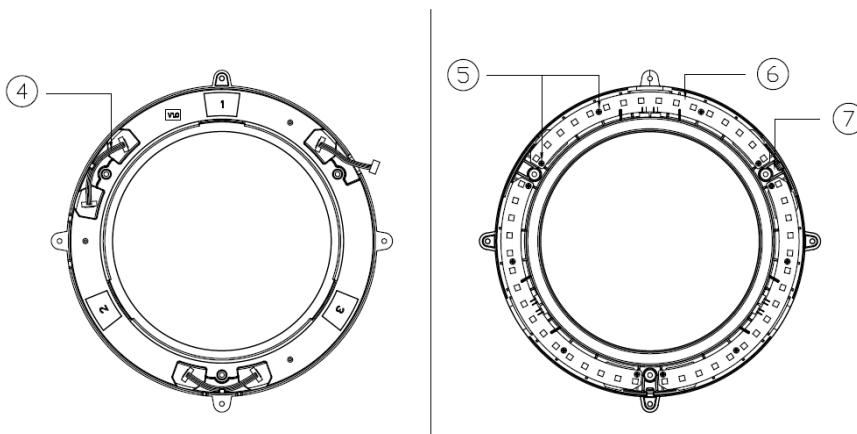

Figure 7-2
As shown in Figure 7-2, remove the 3 Dupont cables ④ from the back, remove the 12 screws ⑤ from the front, and remove the indicator board ⑥ (RVM100-IND) and the indicator support ⑦ (RVM100-INDS). The specification of the screw is the self-tapping screw, ST2*6mm.